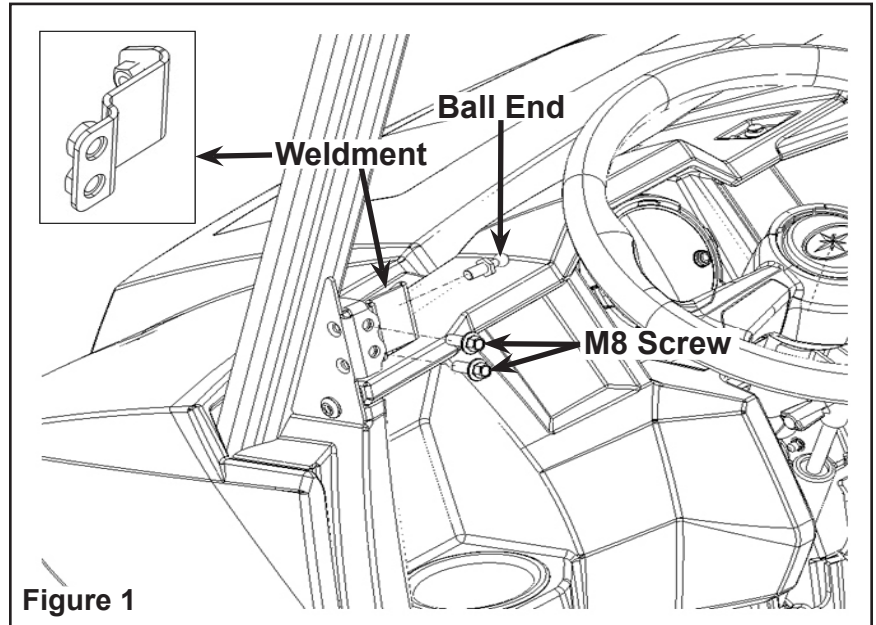

Figure 1
**NOTE:** Torque the screws to 16 ft. lbs. (21.7 Nm). Figure 1.